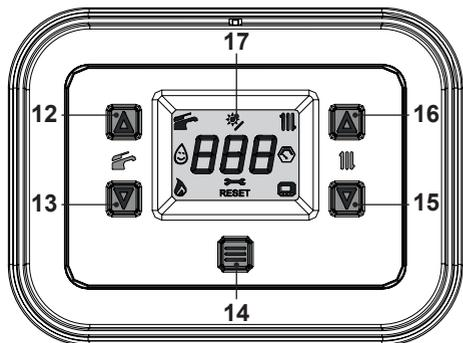

Fig. 2.7
- Press the key 14 for 1 second until the  symbol appears on the display Fig. 2.7.
The output temperature of C.H. water can be adjusted by pressing keys 15 (reduce) and 16 (increase) (Fig. 2.7) from a minimum of about 25°C to a maximum of about 80°C. Press one of the two keys once to display the "set" value. Press again to access the modification.
However, if the ambient temperature is not comfortable, the flow temperature of the heating system can be adjusted by $\pm 15^{\circ}\text{C}$ by pressing on keys 15 (reduce) and 16 (increase) (Fig. 2.7).
The temperature of the D.H.W. can be adjusted by pressing keys 12 (increase) and 13 (reduce) (Fig. 2.7) from a minimum of about 35°C to a maximum of about 60°C . Press one of the two keys once to display the "set" value. Press again to access the modification.